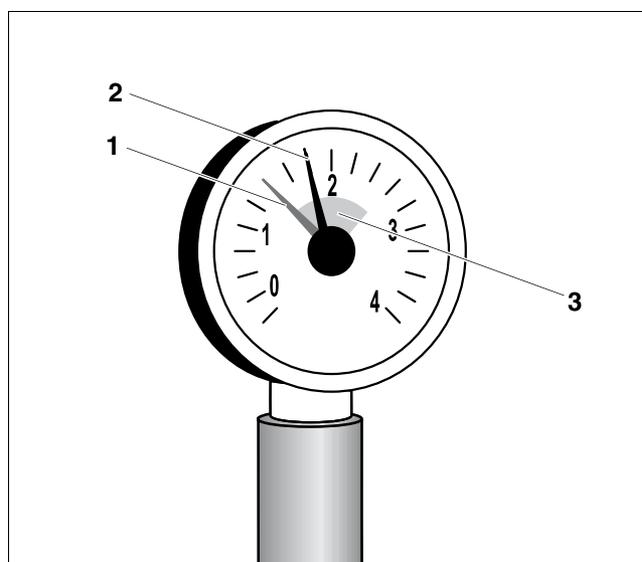

Fig. 5 Pressure gauge for sealed systems (in bars)
On sealed systems the pressure gauge needle (Fig. 5, **Item 2**) must be within the green range (Fig. 5, **Item 3**). Set the red needle (Fig. 5, **Item 1**) on the pressure gauge to the required system pressure.
- The water pressure in the system is too low, if the pressure gauge needle falls below (Fig. 5, **Item 2**) the green range (Fig. 5, **Item 3**). Re-fill the heating system with make-up water (see Chapter 3 "Using correct fill and make-up water", page 7).